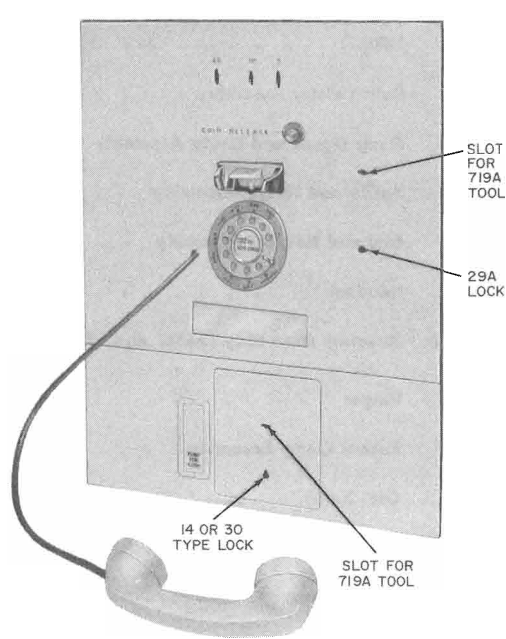

Fig. 1—235G Coin Collector
1.02 The 235G(MD) and 1235G(MD) coin collectors (Fig. 1 and 2) are stainless steel, multislot, panel phones. They are similar except the 235G has a rotary dial; the 1235G has a 10-button TOUCH-TONE® dial.